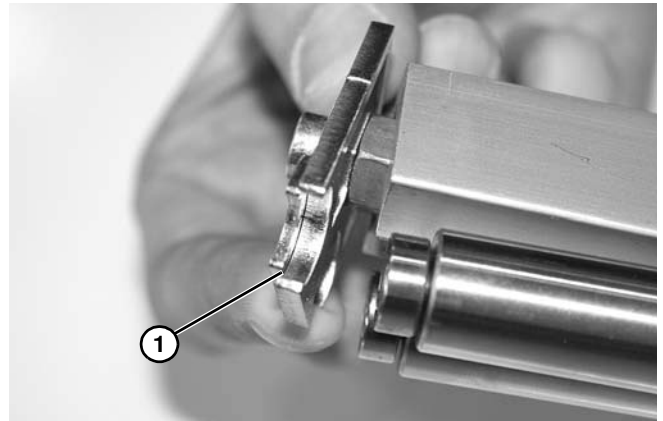

Figure 108
6. Remove outer and inner end plate (**Figure 108, item 1**).